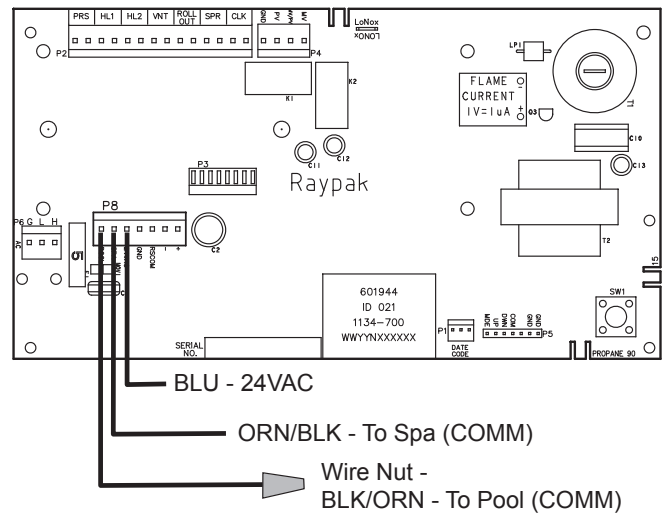

Figure 55. 2-Wire Remote Harness Installation on the P8 Connector of the Board
7. Install the “7-Pin Remote Interface Harness” to the P8 connector and turn power “ON” to the heater. See **Figure 55**.